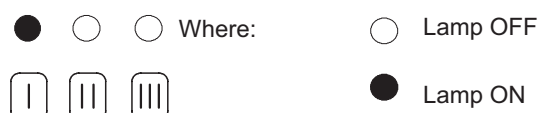

Figure 8.18
- 3 The lamps F should give the indication as in Figure 8.18 (reignition frequency). If not, press the reset button repeatedly to obtain it.